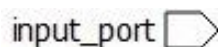
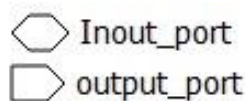

Figure 2.69. Input Port
Figure 2.70. Output Port and Inout Port
- f. Click **OK**. The port appears. Figure 2.69 shows an input port, port name of which is on the left. Figure 2.70 shows an output port and an inout port, port names of which are on the right.